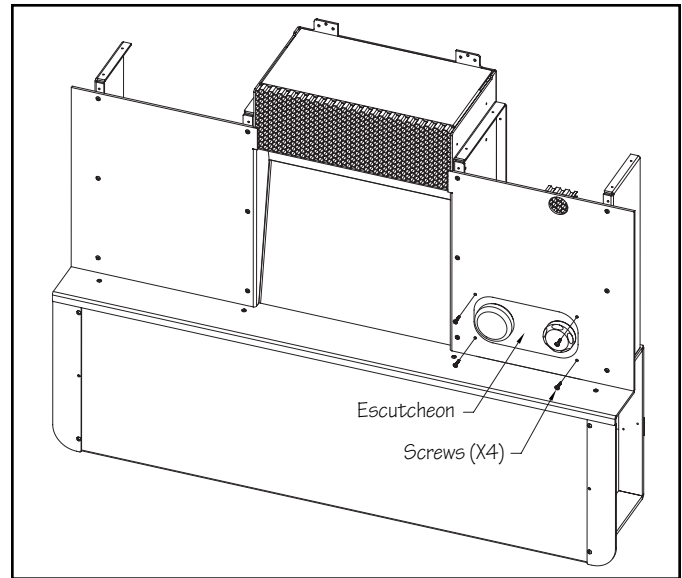

Fig. 55.2
Remove the (4) screws that secure the escutcheon to the propulsion system housing. Fig. 55.2.